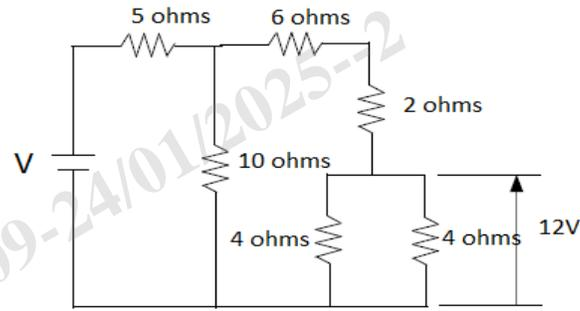

Fig. 1
- f) Calculate the supply voltage V in the circuit shown in Figure 1.